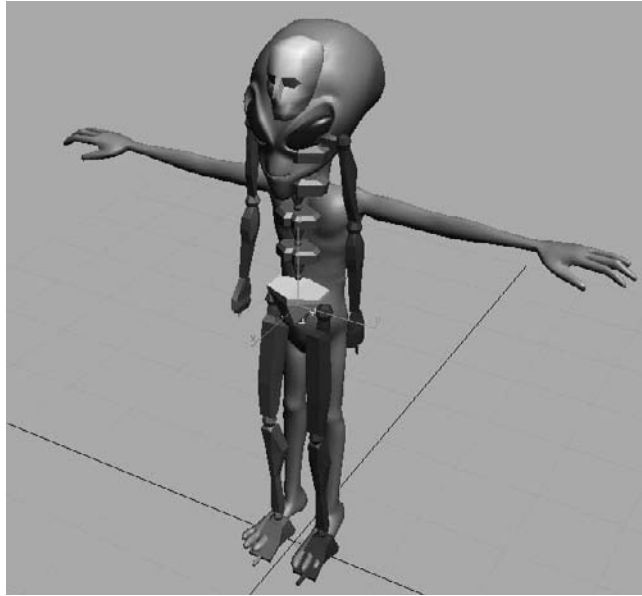

Figure 9.28
2. Create a biped with a height about the same as the alien's. This will size most of the biped's parts similar to those of the alien already, as shown in Figure 9.28.